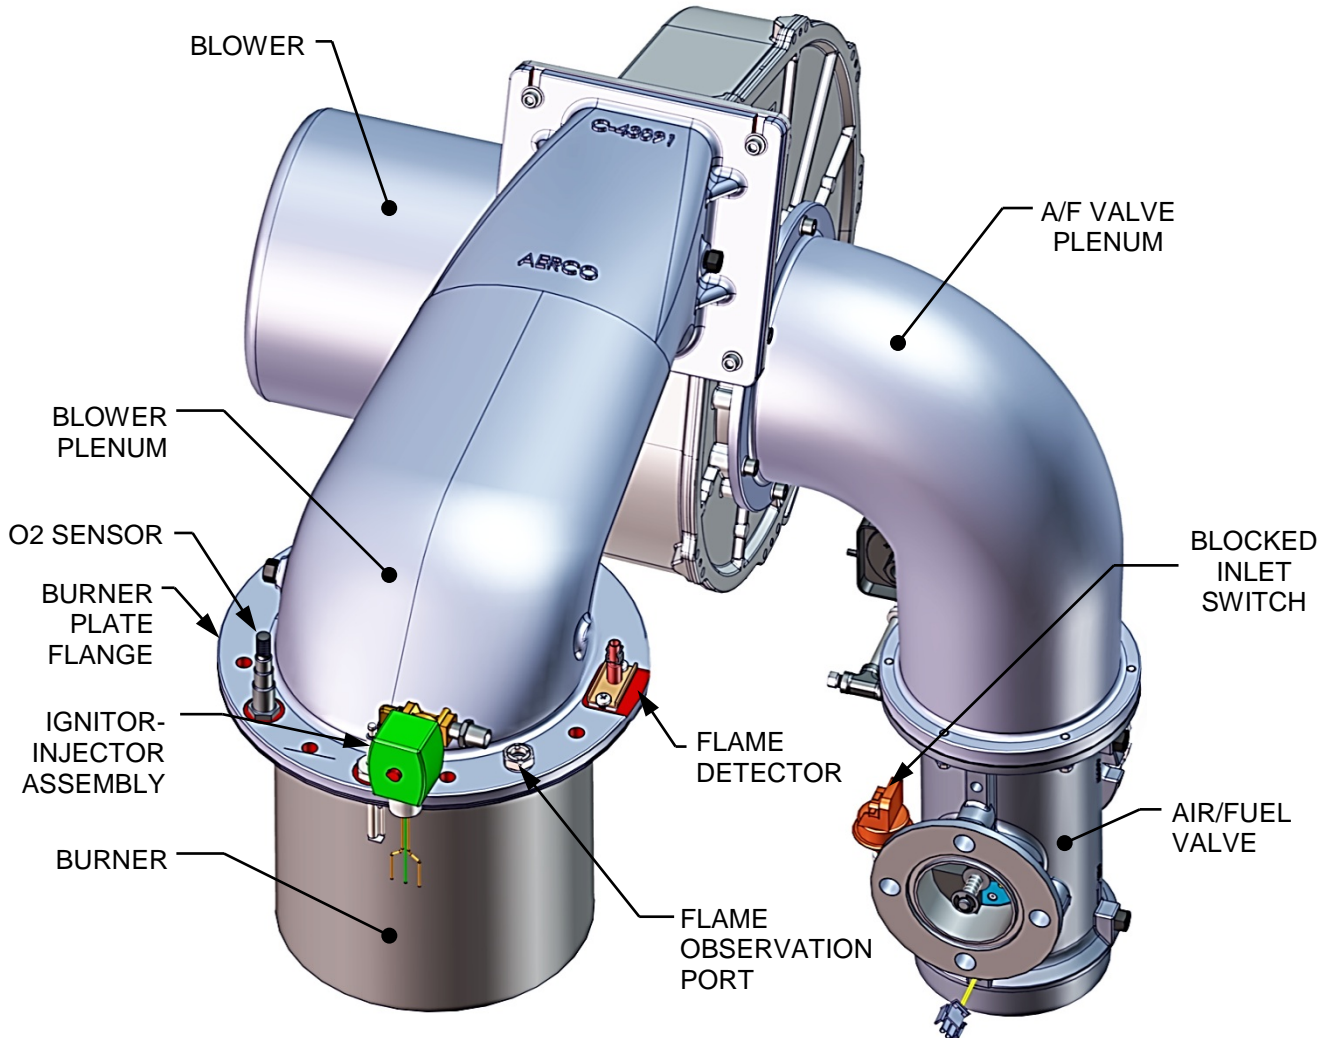

Figure 7-1: Benchmark 2500/3000 Burner Assembly (Removed from Unit)
The igniter-injector (Kit P/N **58023**) is located on the burner plate at the top of the Heating Boiler. In addition to providing the ignition spark required to light the burner, the igniter-injector also contains a gas injector tube which connects to the staged ignition assembly. Figure 7-1 shows the complete burner assembly removed from the Heating Boiler and indicates the location of the igniter-injector flame detector and other related components.
2. Remove the top shroud from the unit by grasping the top handle and lifting straight up. This will disengage the shroud from the four (4) pins in the side panels.
3. Disconnect the cable from the igniter-injector (Figure 7-1).
The flame detector (kit P/N **24356-1**) is located on the burner plate at the top of the unit (see Figures 7-1 and 7-2). The flame detector may be hot. Allow the unit to cool sufficiently before removing the flame detector. Inspect or replace the flame detector as follows:
The Lean Oxygen Sensor (P/N **61026**) is located on the burner plate at the top of the unit (see Figures 7-1 and 7-2). The sensor may be hot. Allow the unit to cool sufficiently before removing or replacing the O₂ sensor.